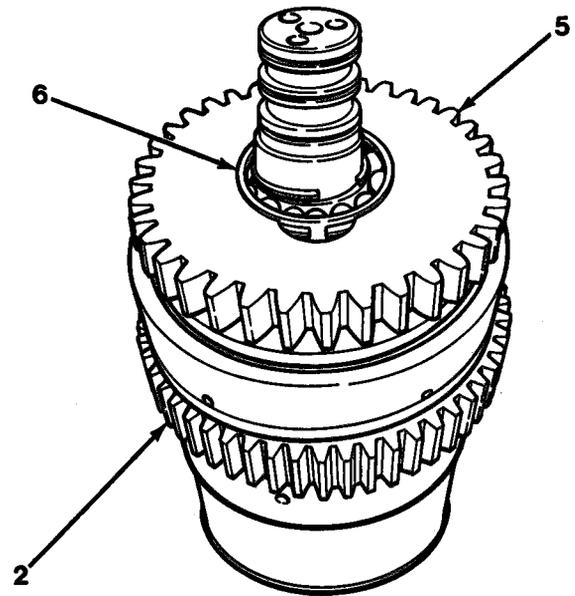

Figure 11-4
4. Remove forward and rear welded assembly (5) and bearing (6) as an assembly from clutch shaft assembly (2, Figure 11-4) by using a puller.